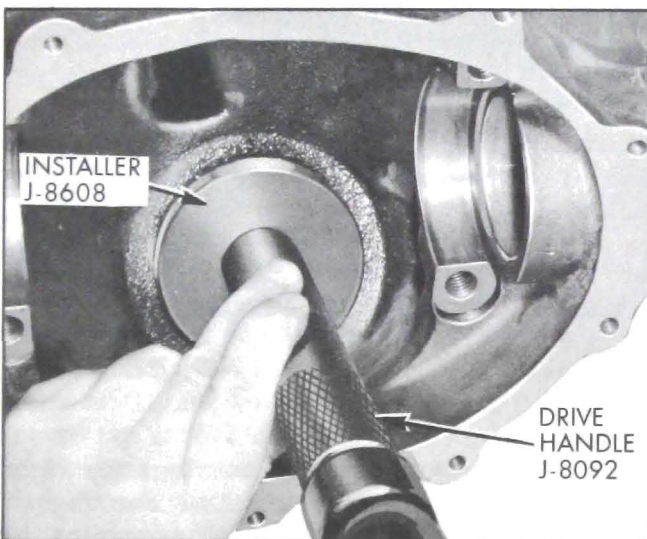

Figure 6-21—Installing Rear Pinion Bearing Outer Race
1. If rear pinion bearing is to be replaced, install new outer race using Installer J-8608 with Driver Handle J-8092. See Figure 6-21.